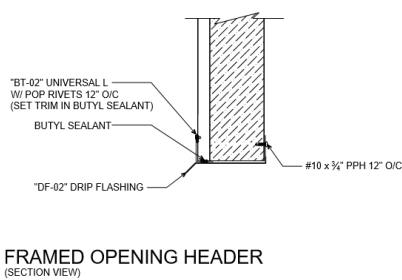

Figure 2A
- 2. OPENING:** Fasten steel drip flashing and trim around the perimeter for the opening using pop rivets every 12 in. oc. See Figures 2A, 2B, and 2C for details.